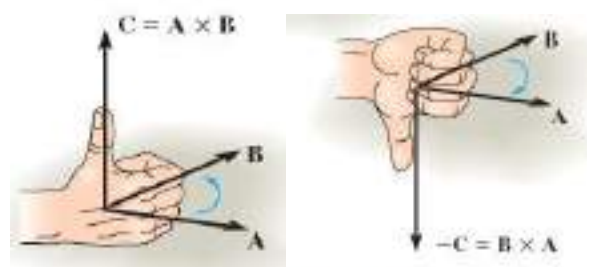

Fig. 4-7
• The commutative law is *not* valid; i.e., $\mathbf{A} \times \mathbf{B} \neq \mathbf{B} \times \mathbf{A}$. Rather, $\mathbf{A} \times \mathbf{B} = -\mathbf{B} \times \mathbf{A}$. This is shown in Fig. 4-7 by using the right-hand rule. The cross product $\mathbf{B} \times \mathbf{A}$ yields a vector that has the same magnitude but acts in the opposite direction to **C**; i.e., $\mathbf{B} \times \mathbf{A} = -\mathbf{C}$.